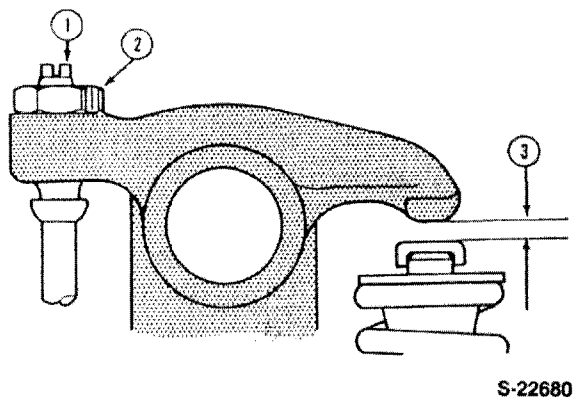

Figure 30
8. Adjust the rocker arm to valve clearance, Figure 30. Be sure the tappet is in its lowest position before making the adjustment. To be sure the tappet is in its lowest position, bring the piston to top dead center on the compression stroke, (both valves closed).